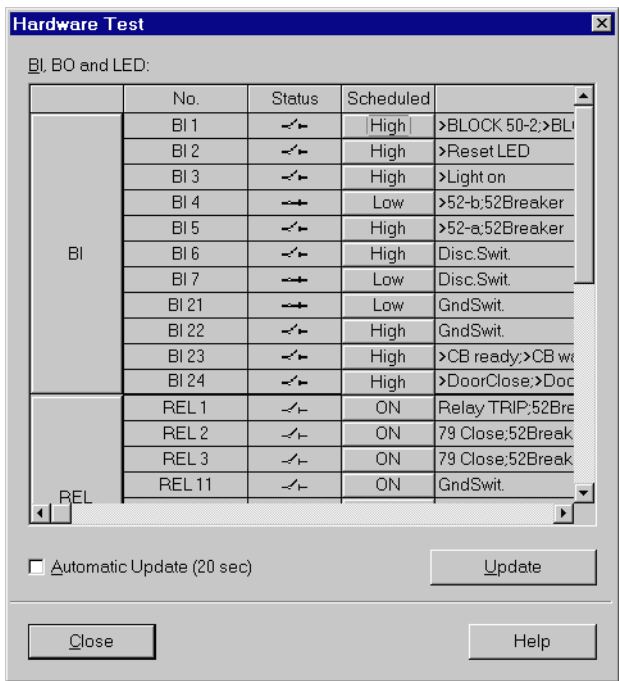

Figure 8-19 Dialogue box for hardware test
- ❑ Double-click in the list view on **Hardware Test**. The dialogue box of the same name opens (see Figure 8-19).